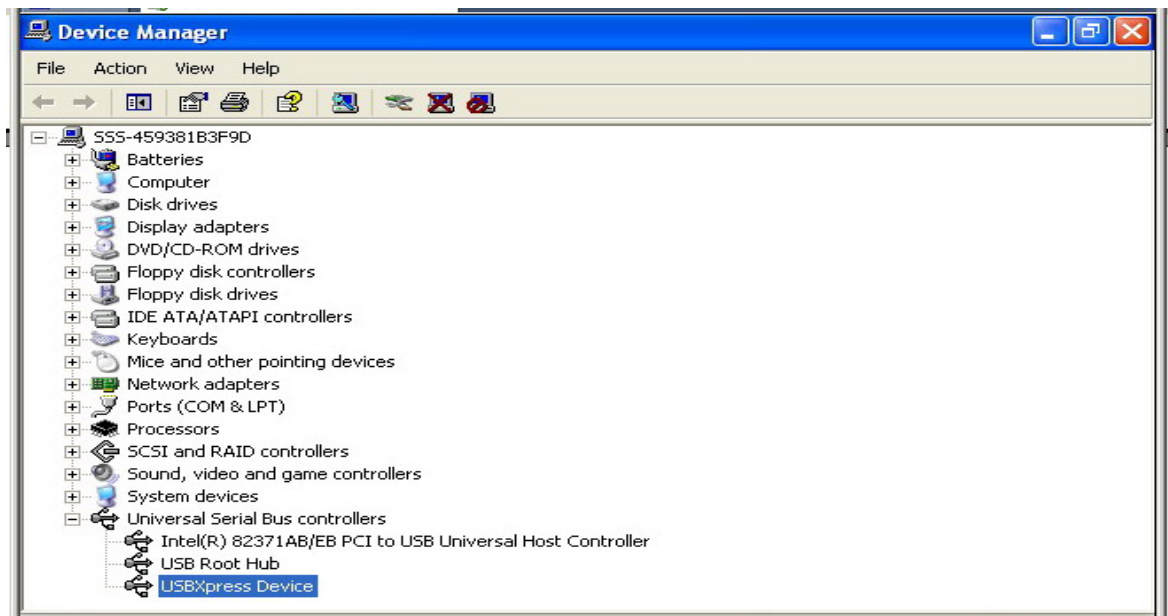

Figure 16
5.6 In "the equipments management machine"-- "The in general use string go to correspond by letter the controller"-- The USBXpress device"or 'UNI-T USB Test and Measurement'such as figure 16. Mean the USB drives to install the success.